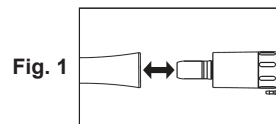

Fig. 1
1. Connect handpiece to motor until it locks into place. (Fig.1)
1. Hold motor and handpiece separately and pull the handpiece off in an axial direction using a slight rotation (Fig.1).